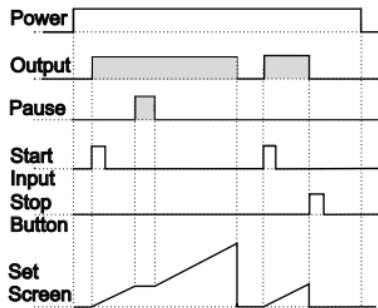

Figure 4.3
4.2.1 If Upcount `dEct` =0 and `outF` is `0-n` the control diagram is shown in Figure 4.3